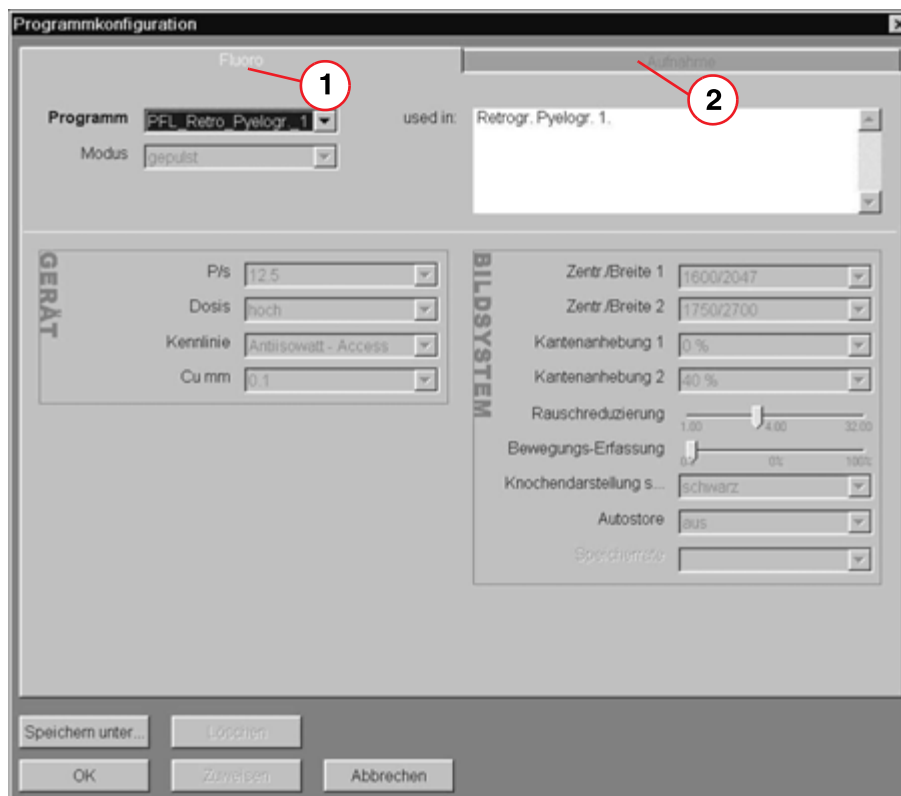

Fig. 146: Program configuration
- Check whether different values are entered in the Fluoro task card (1/Fig. 146 / p. 156) under Imaging system "Center/width 1" and "Center/width 2". The same applies for "Edge enhancement 1" and "Edge enhancement 2".
- Check whether different values are entered in the Exposure task card (2/Fig. 146 / p. 156) under Imaging system "Center/width 1" and "Center/width 2". The same applies for "Edge enhancement 1" and "Edge enhancement 2". "C 0" must not be entered as the transfer characteristic under "Device".